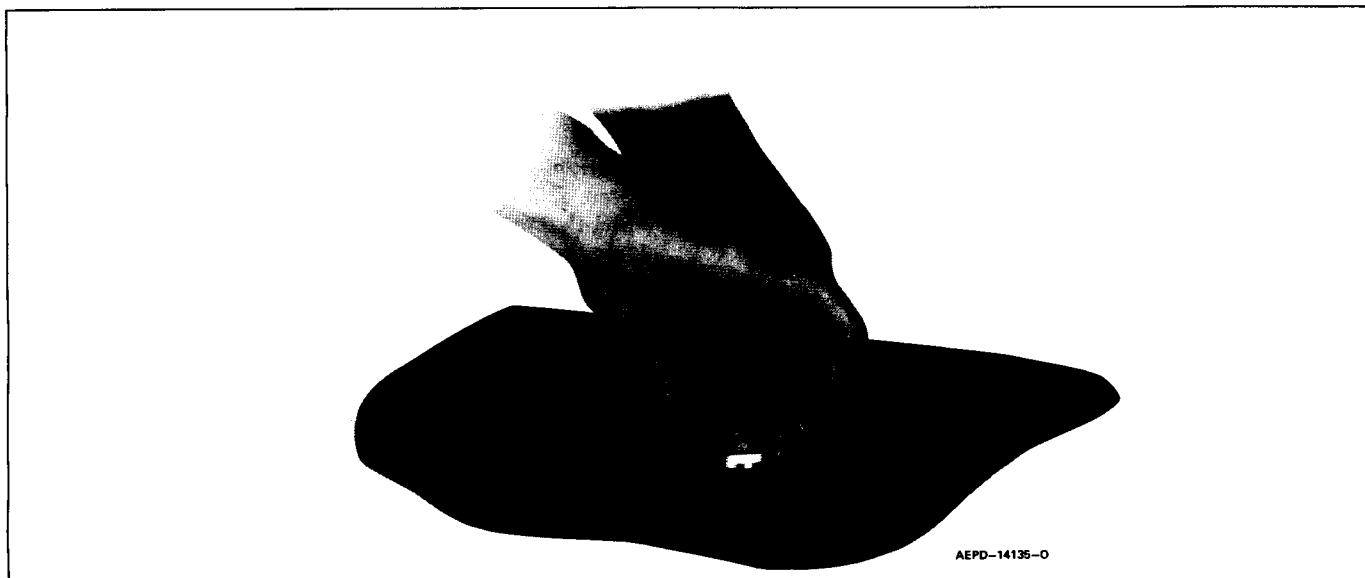

Figure 7. Locking Nut Positioning
Step 6. See Figure 7. Hold the antenna bushing assembly in place with the index finger and thread the locking nut onto it as shown.